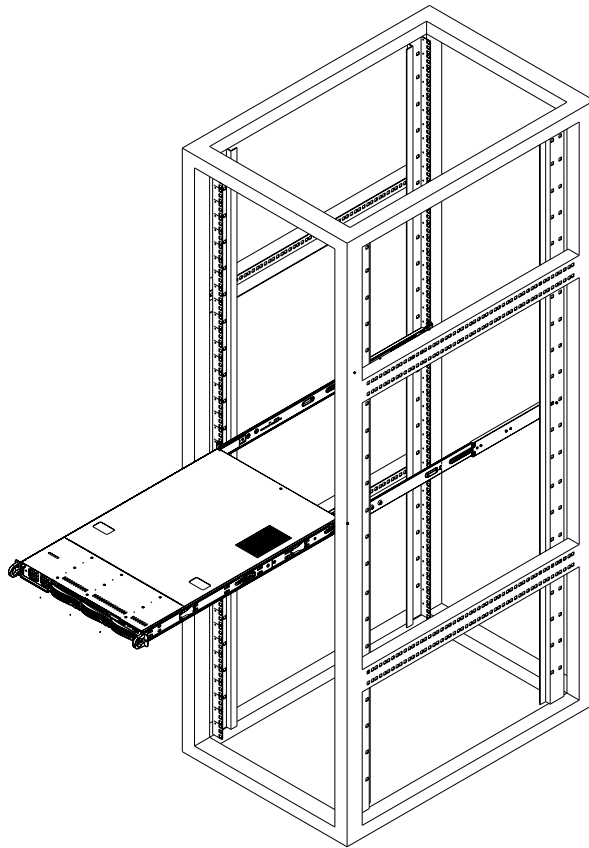

Figure 2-6 Installing the Server in the Rack
4. Pull out and adjust both the short and long brackets to the proper distance so that the rail can fit snugly into the rack, reference Figure 2-6 on page 18.
2. Align the inner rails of the chassis with the outer rails on the rack, see Figure 2-6.